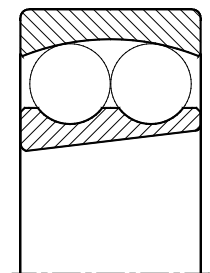

Fig. 2.7
**Self aligning ball bearings** are frequently used with a 1:12 tapered bore (fig. 2.7) for mounting using adapter sleeves.